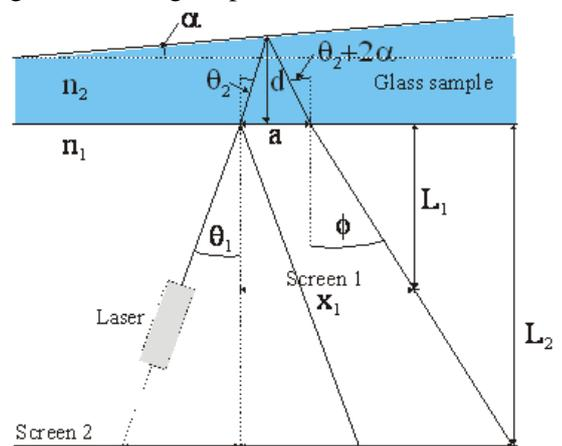

Figure 3
5. In the two spot experiment the beams will diverge if the glass faces are not parallel. How could you measure the divergence of the beams. (Figure 3)